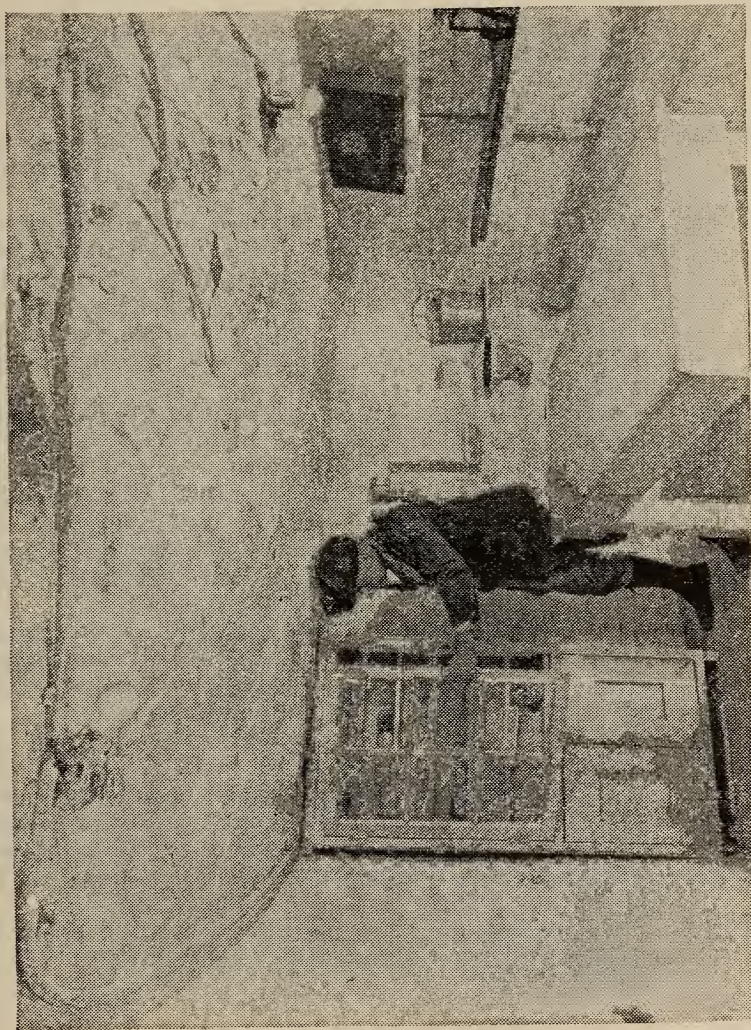

FIGURE 67.—Clean, well-illuminated first-aid stations should be provided on every working section.
- A. It should be begun at once if the patient is at a point free from danger; otherwise, as soon as the patient has been moved to a safe place. (See fig. 67.)